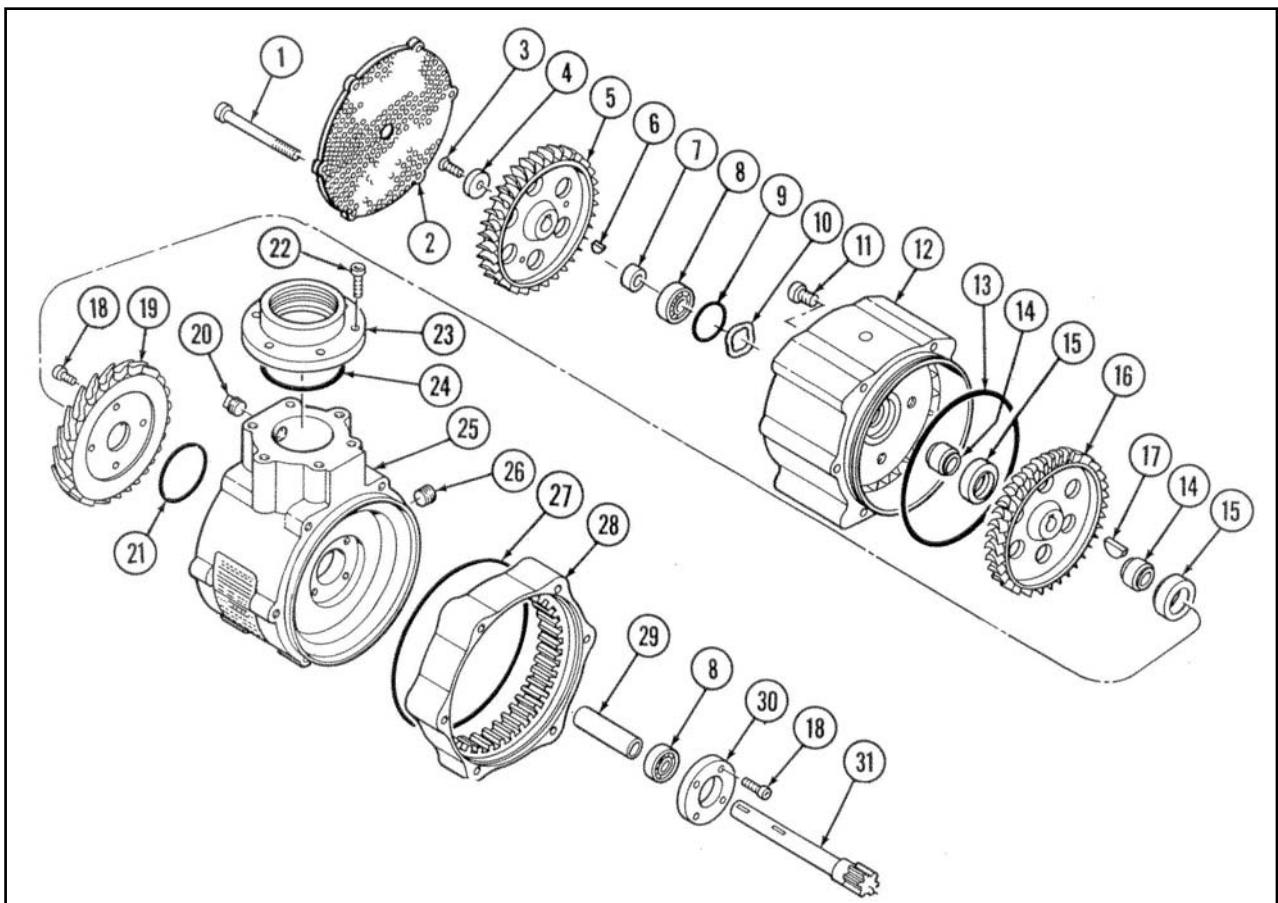

Figure 3. Turbine Housing Assembly
The Turbine housing assembly, refer to figure 3, consists of a stage one (16) and a stage two (9) turbine wheel mounted on sun gear shaft (31). The front bearing (8) is secured by a retainer plate (30). The aft bearing (8) is preloaded by a wavy spring (10).